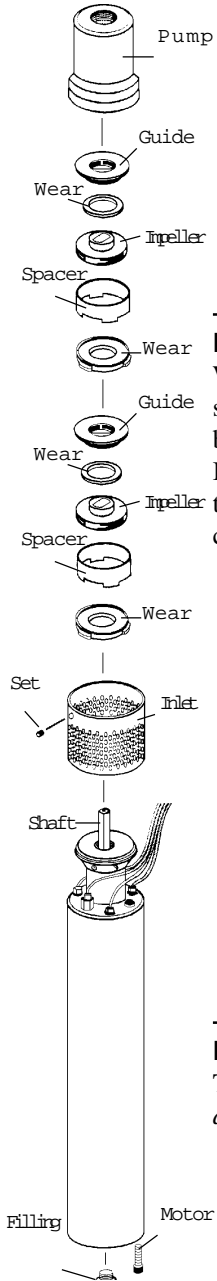

Figure 5: Pump Assembly
There is no recommended preventative maintenance for pump components. Reduced pump performance may be indicative of wear, especially if pumping suspended solids. See page 8 - "Checking the impellers for wear". Disassemble the pump end impeller assembly (see figure 5, page 9) and examine for wear according to the following:
- Remove the Inlet Screen, Pump Housing, and the impeller assembly (see Figure 5, page 9). Try to spin the motor shaft by hand. It should spin freely. If it does not, the motor must be replaced.
There is no recommended preventative maintenance for pump components. Reduced pump performance may be indicative of wear, especially if pumping suspended solids. Disassemble the pump end impeller assembly (see figure 5, page 9) and examine for wear according to the following:
2. Re-assembly (refer to figure 5)